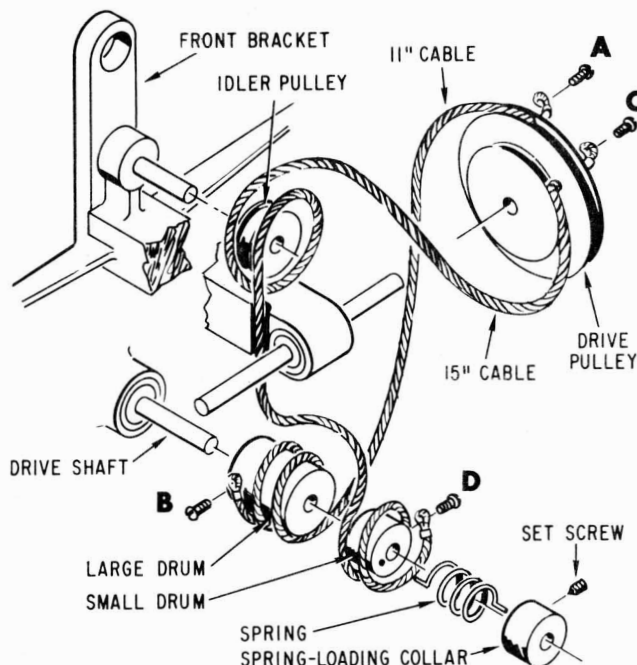

Figure M14-1. Exploded Rear View of Drive Cabling
**CABLE REPLACEMENT PROCEDURE.** (Refer to Figure M14-1.)
3. Set instrument tuning dial to high frequency limit and rotate tuning capacitors so plates are open full. Fasten cable at A and thread as shown in Figure M14-1 with other end fastened by screw at B on LARGE DRUM.
5. Revolve SPRING LOADING COLLAR counterclockwise (viewed as shown in Figure M14-1) until slack is removed from drive cables. Rotate an additional half turn counterclockwise to tighten SPRING and tighten SET SCREW.